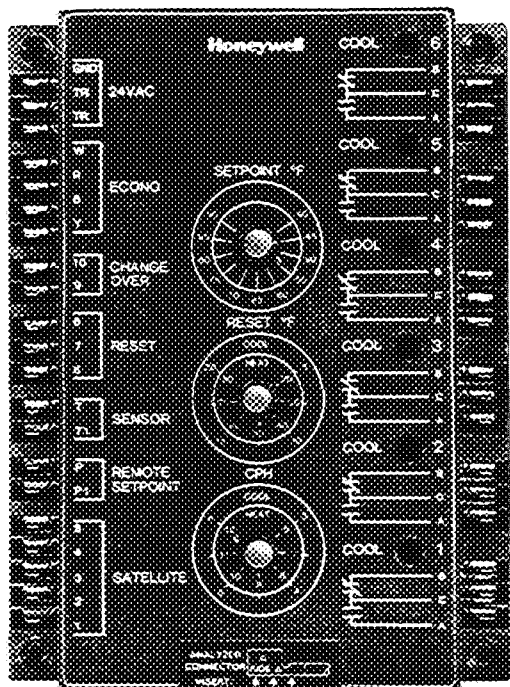

Fig. 19 – Honeywell Microprocessor
Unit capacity is monitored and controlled by a Honeywell W7100 microprocessor (Fig. 19). This controller provides 3 steps of capacity control on size 016 units and 6 steps of control on size 024, 028 and 034 units.
3. Set the CPH (Cycles per Hour) knob on microprocessor (Fig. 19) at 6.